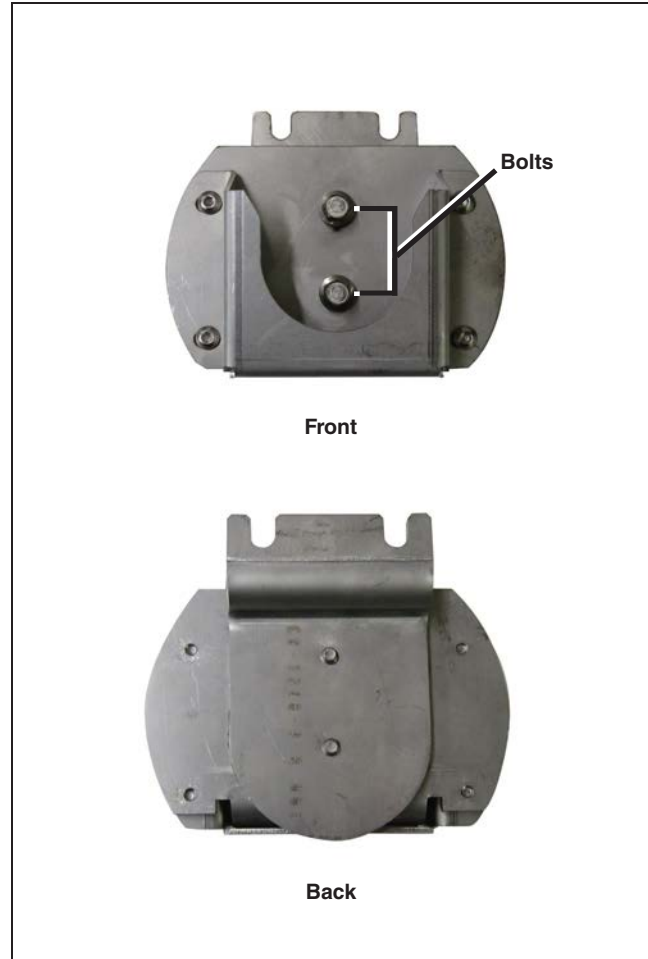

Figure 28. The parking stand spacer.
- STEP 1.** Make sure the two hex head $\frac{1}{4}$ -20 \times $\frac{5}{8}$ -inch flange head bolts are loose but still installed to the spacer back plate. See Figure 28.
- STEP 4.** Make sure the $\frac{1}{4}$ -20 \times $\frac{5}{8}$ -inch flange head screws are loose but still installed to the spacer back plate. See Figure 28 on page 22.